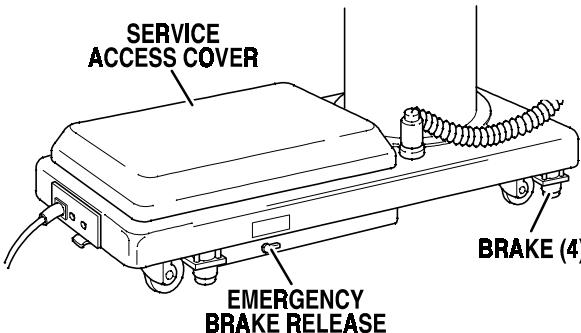

Figure 3-4. Emergency Brake Release
**b. Emergency Brake Release.** In case of a power failure or an electrical problem within the table, the emergency brake release system can be used to move the table. The control lever for this function is located on the side of the table base and is identified by an EMERGENCY BRAKE RELEASE label. Turn the lever counterclockwise to release the brakes. See figure 3-4.